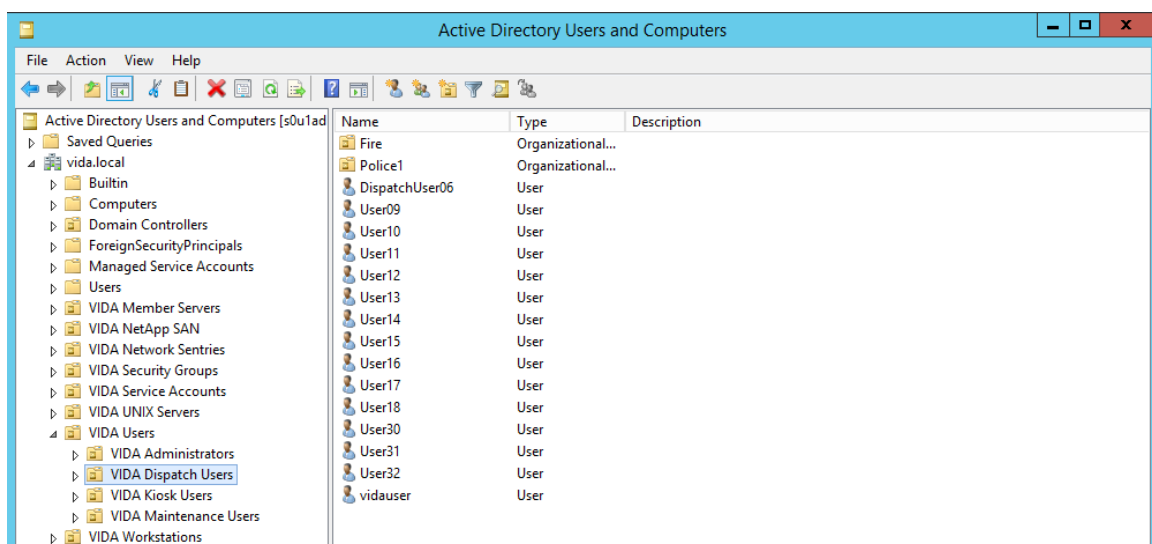

Figure 9-14: Active Directory Users and Computers
3. Once in the **Active Directory Users and Computers** tool, navigate to the **VIDA Users** → **VIDA Dispatch Users** OU in the tree (see Figure 9-14).